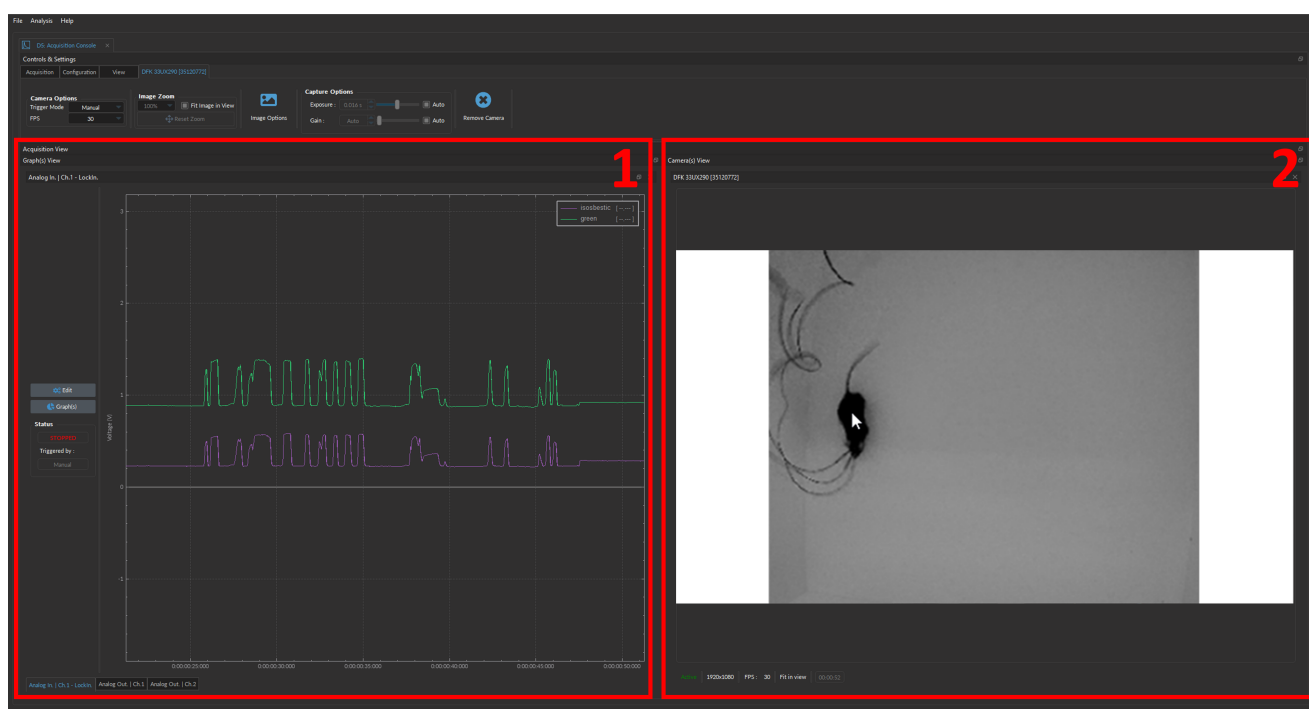

Figure 7.14: Integrating Camera into Acquisition Console module
1. **Simultaneous view** of photometry signal and the video feed (Fig. 7.14, 1 & 2 respectively). Note that while this module can support multiple camera integration, it can only view one video feed at a time.